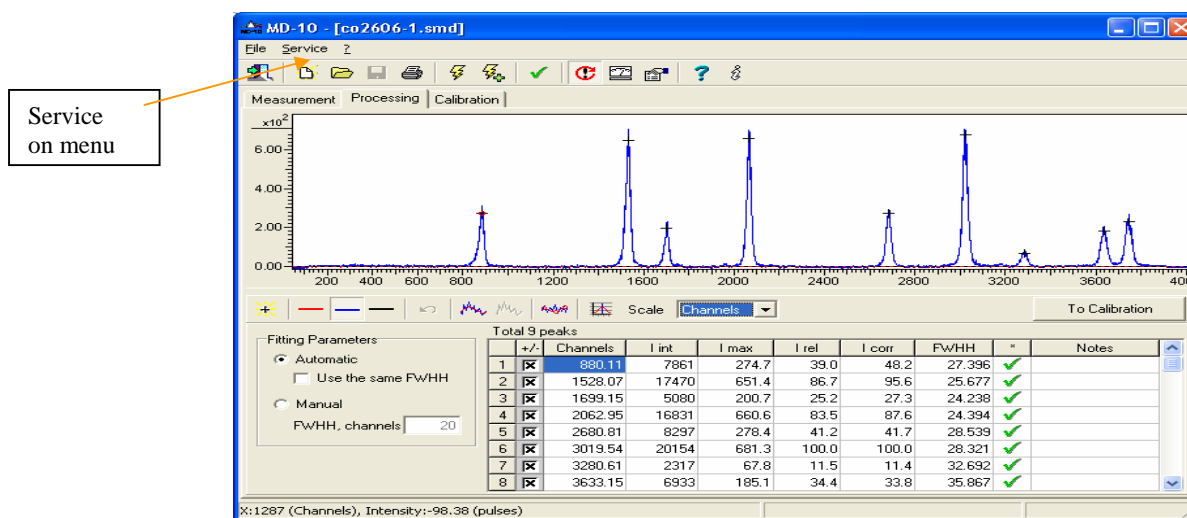

Fig.7 MD-10 Diffractometer Main Window – Processing page.
- Process a measured spectrum by pressing the button "Fit Peak Profiles" on the control panel of a "Measurement" page. Then program will be automatically switched to the "Processing" window as in Fig. 7